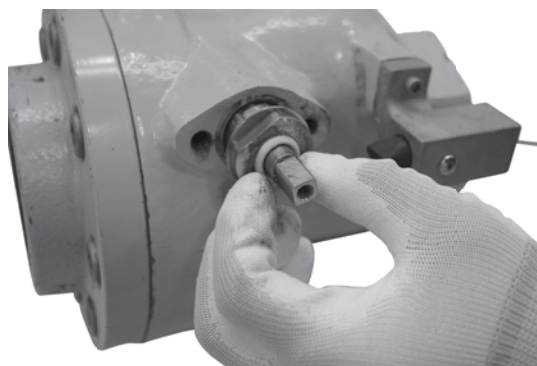

Figure 16. Install packing ring (step 6)
6. Install one TFE packing ring with the female side in, Figure 16, using the same procedure as in step 5. Again apply a liberal layer of Magnalube®-G grease.